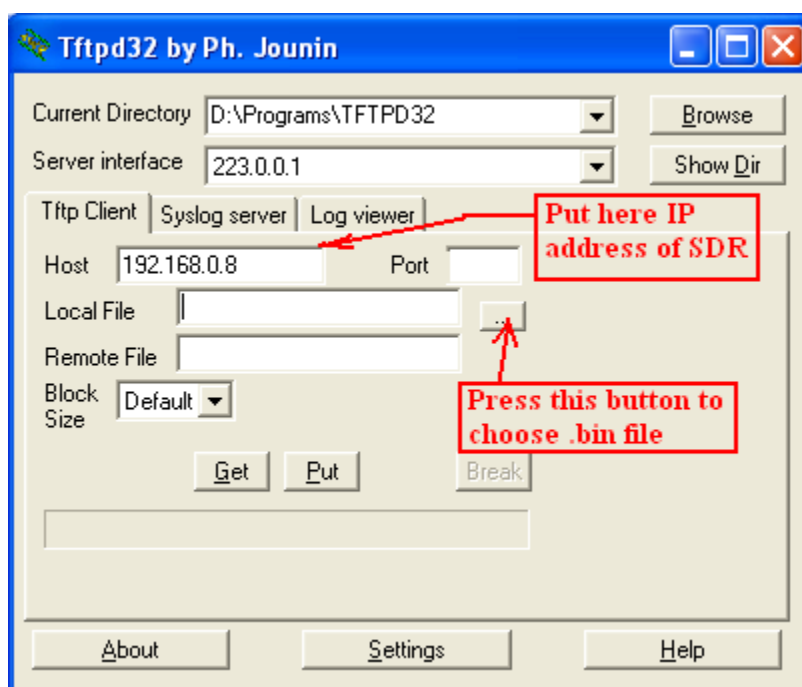

Figure 7 Tftpd32 utility (red color writings shows author's comments)
3.1.4. You need to start tftpd32.exe utility, screen-shot of this utility is shown on **Figure.7**